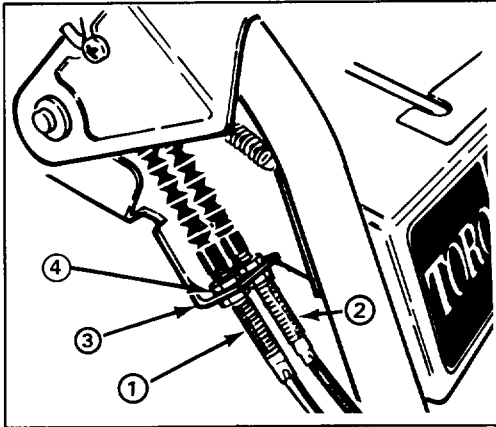

Figure 24
- Loosen upper jam nut securing auger/impeller cable to mounting bracket (Fig. 24).
ADJUSTING TRACTION DRIVE BELT (Fig. 24)